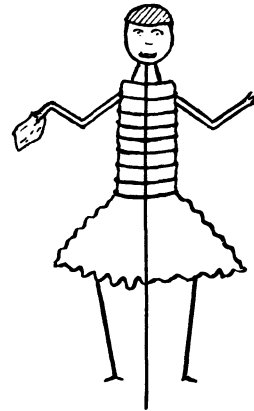

FIG. 7. SIMPLE FORM OF DOLL
For both (1) and (2) it is helpful to have a small doll, mounted on a strong pin, which can be fixed into the blackboard and turned to face in any direction, as required. This is particularly good for the children who are slow to develop a sense of direction. It adds interest for all. A suitable doll is easily made out of a strong pin, about 6 in. long, lengths of pipe cleaners and crinkled tissue paper. One side of the head is darkened, to represent hair and so distinguish back from front. If necessary, a handkerchief can be carried in the right hand, Fig. 7.